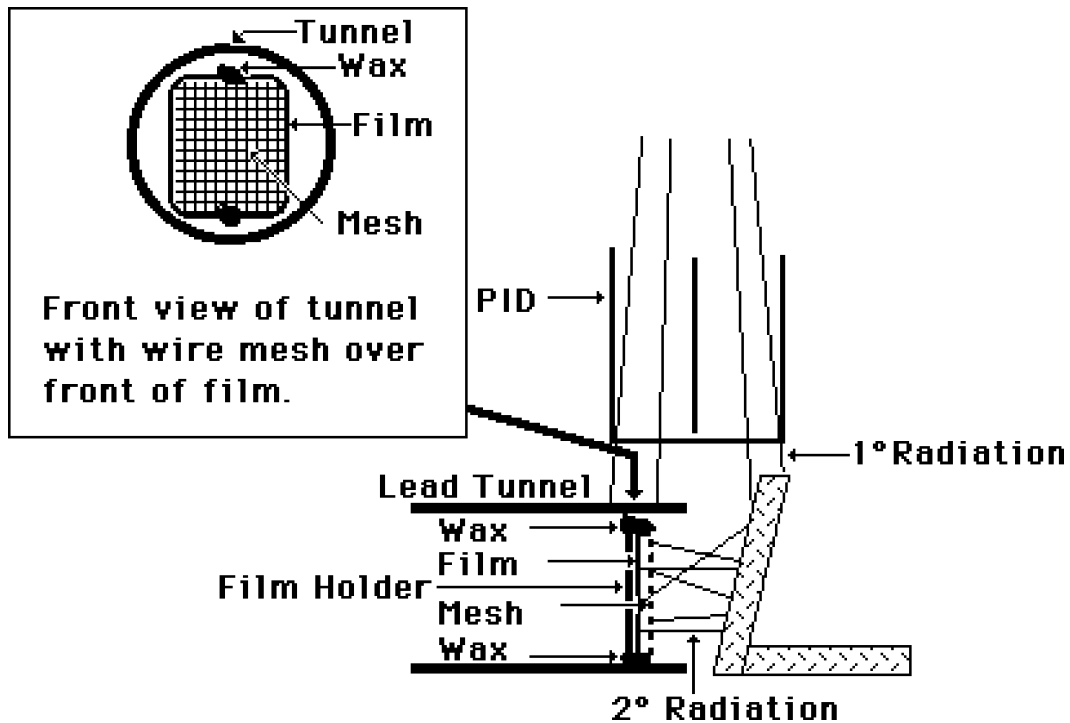

Figure 5-1. A schematic illustration of the set-up for demonstrating the production of secondary and scatter x radiation by the various materials.
5. (i) Set up the apparatus, with wood test material, as per the diagram (Figure 5-1), using a short PID. Place the appropriate marker, showing the test material and kVp, over the film. The distance from the test material to the film should be as short as possible. Place the film approximately 2 cm in from the front of the lead tunnel.